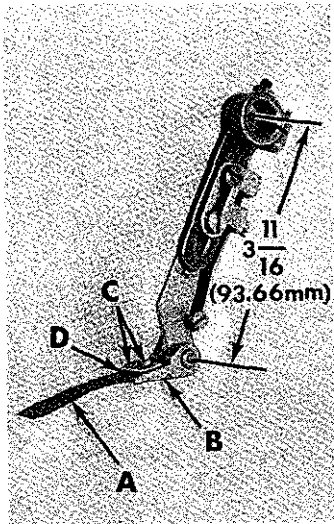
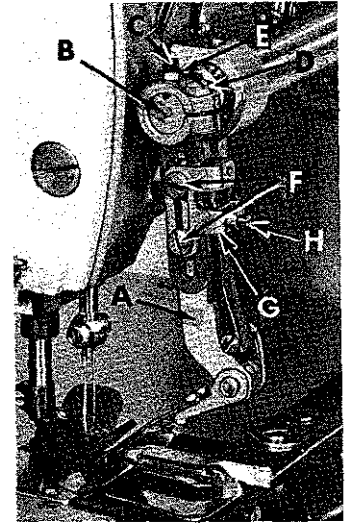
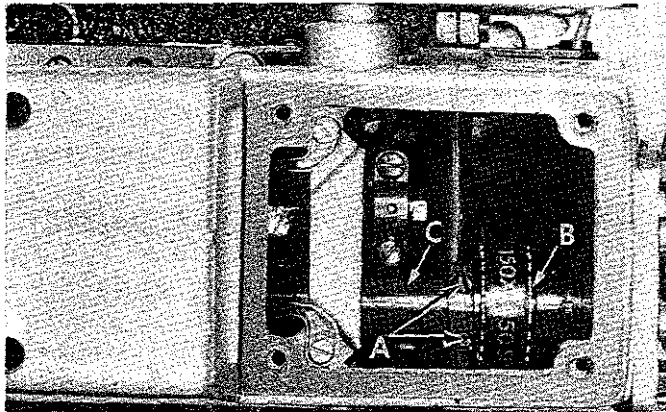
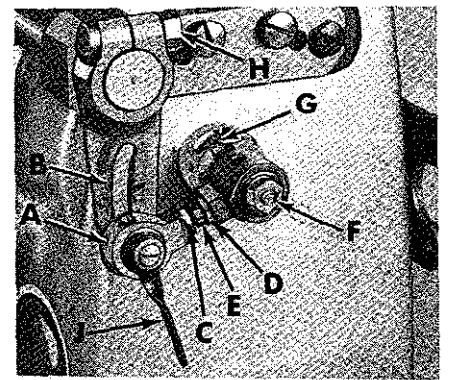

Fig. 16
Fig. 17
Fig. 18
Fig. 19
With the ruffler arm removed from the ruffler drive shaft, assemble the ruffler blade (A, Fig. 16) to the ruffler blade holder (B), using screws (C) and washer plate (D) with the ruffler blade square to the ruffler arm, which will minimize the chance of forming slanted ruffles. As a preliminary setting, check: the distance between the centerlines of ruffler rocker arm and link pin should be $3 \frac{11}{16}$ inch (93.66 mm) See Fig. 16. Adjustment can be made by loosening locknuts securing screws (F, Fig. 17) loosen screws (F) and position ruffler arm extension as required. Retighten screws (F) and locknuts. NOTE: This adjustment may be required again after installation.
Install the ruffler arm (A, Fig. 17) onto the ruffler drive shaft (B). Align the left side of the ruffler blade with the left side of the presser foot. Snug up spot screw (C) in "V" groove of ruffler drive shaft, tighten clamp screw (D) and nut (E) securely.
The ruffler blade (A, Fig. 16) should be timed so that it is at its closest position to the needles when descending needle points are even with the top of the throat plate. If adjustment is necessary, remove upper crank chamber cover and loosen set screws (A, Fig. 18) in the ruffler drive shaft sprocket (B). Turn the handwheel until the descending needle points are even with the top of the throat plate. Now turn the upper drive shaft (C) until the ruffler blade is at its most forward point of travel toward the needles. Retighten set screws (A). Be sure that upper sprocket aligns with the lower sprocket, so timing belt runs true. Replace upper crank chamber cover. At this position, you should be able to move the ruffler drive connecting rod assembly (A, Fig. 19) in the slot of the ruffler drive lever (B) without moving the ruffler blade.
AT ITS MOST FORWARD POSITION, the ruffler blade should be set with the tips of its teeth approximately $\frac{3}{32}$ to $\frac{1}{8}$ inch (2.38 to 3.18 mm) from the front of the needles on Styles 59300 C and E (See Fig. 20). Styles 59300 F and G require setting the ruffler blade with the tips of its teeth slightly beyond the point of the needles, with the needles centered in the slots of blade (See Fig. 20A). If adjustment is required loosen nut (H) and position ruffler arm so ruffler blade is set properly. Tighten nut (H). With the ruffler drive connecting rod (A, Fig. 19) set in its lowest position in the ruffler drive lever (B), set the crank eccentric to obtain a $1 \frac{1}{2}$ to 1 ruffling ratio. To set the crank eccentric, while holding the handwheel, loosen nut (F) and turn adjusting screw (G) as required to get the $1 \frac{1}{2}$ to 1 ruffling ratio. Tighten nut (F). Recheck to assure that the leading edge of the ruffler blade remains at the specified dimensions from the centerline of the needles.
NOTE: A greater ruffling ratio can be obtained by loosening the front ball joint using lever (J, Fig. 19) and moving the ball joint up in the slot of the ruffler drive lever. Tighten lever (J).
The spring pressure on the ruffler blade should only be sufficient to hold the ruffler blade down at top speed and not so great as to push the stripper blade down. If more pressure is required on the ruffler blade, loosen nut (G, Fig. 19) and turn screw (H) clockwise. When the required spring pressure has been obtained, tighten nut (G).